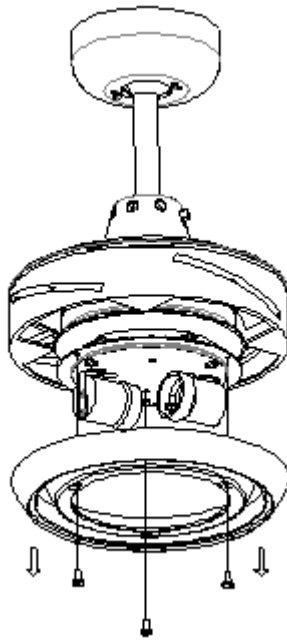

Fig.4
2. Remove the screws from the light plate and remove the light plate. Fig.4